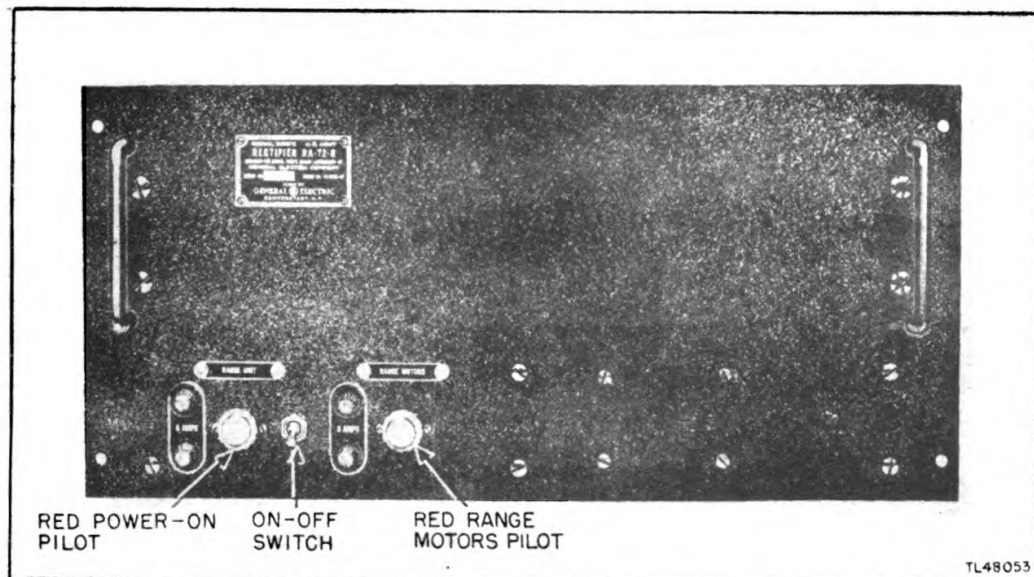

Figure 11. Range Rectifier RA-72-B, front view.
14. RANGE RECTIFIER RA-72-B (fig. 11).